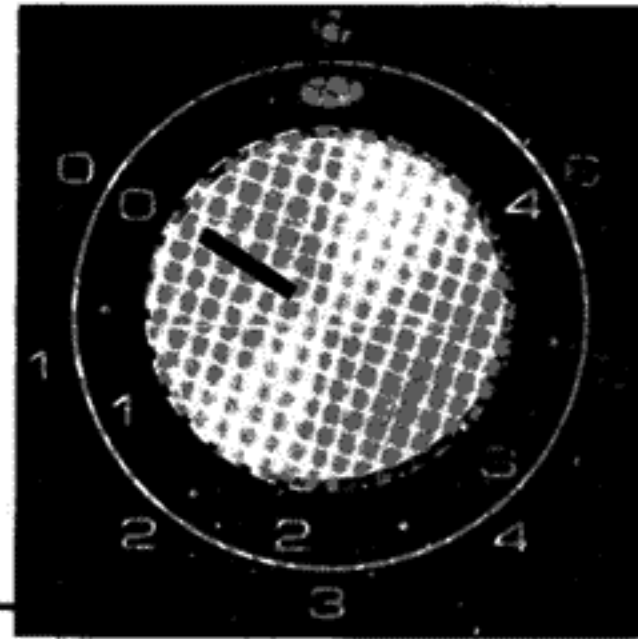

Fig. 12
- Set the stylus pressure ring to '0' (Fig. 12).
Rotate stylus pressure ring until the figure for the appropriate stylus pressure in grams coincides with the marker line (Fig. 12). Always set the stylus pressure to that recommended by the manufacturer of the cartridge being used.
- Adjust height by turning the knurled sleeve under the stylus pressure rim counter-clockwise (viewed from the top) to raise the arm, clockwise to lower it (Fig. 12, A).